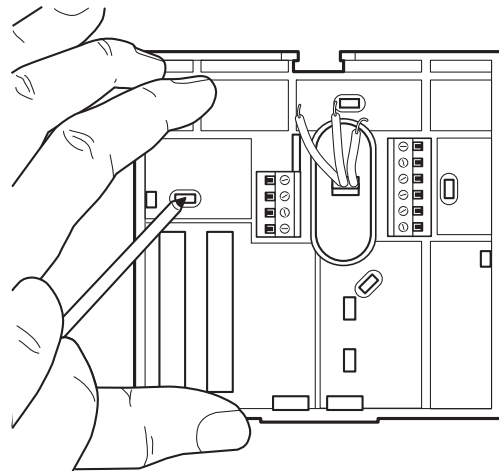

Fig. 2 — Backplate Mounting
4. Route thermostat wires through large hole in backplate. Level backplate against wall (for appearance only, the thermostat does not need be leveled for proper operation) and mark wall through two mounting holes. See Fig. 2.
7. Adjust length and routing of each wire to reach proper connector block and terminal on backplate with $\frac{1}{4}$ -in. (6 mm) of extra wire. Strip only $\frac{1}{4}$ -in. of insulation from each wire to prevent adjacent wires from shorting together when connected. See Fig. 2.